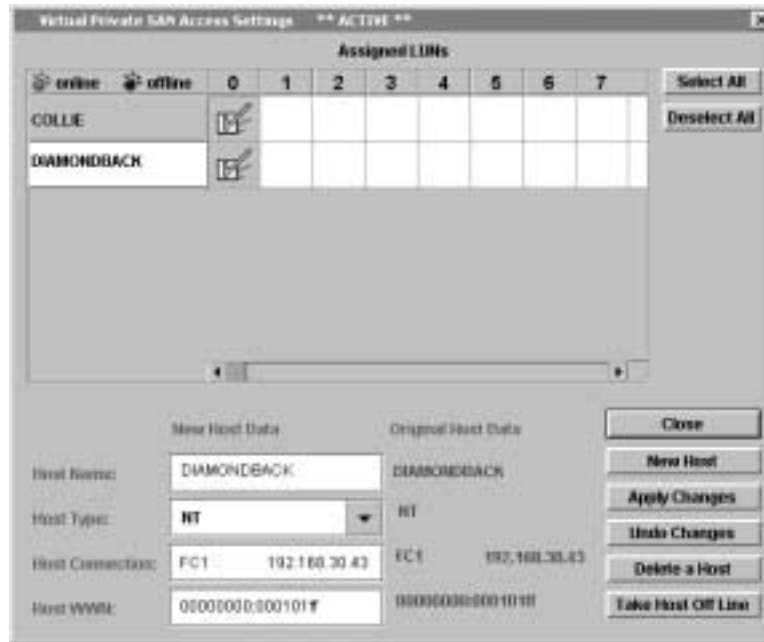

Figure 6-5: Initial VPS Window before Access Assignments
13. From the ADIC Management Console, select the ADIC Gateway. From the **Controls** menu, select **Access Options > Virtual Private SAN**. Figure 6-5 shows a Virtual Private SAN window that does not yet have any access settings.